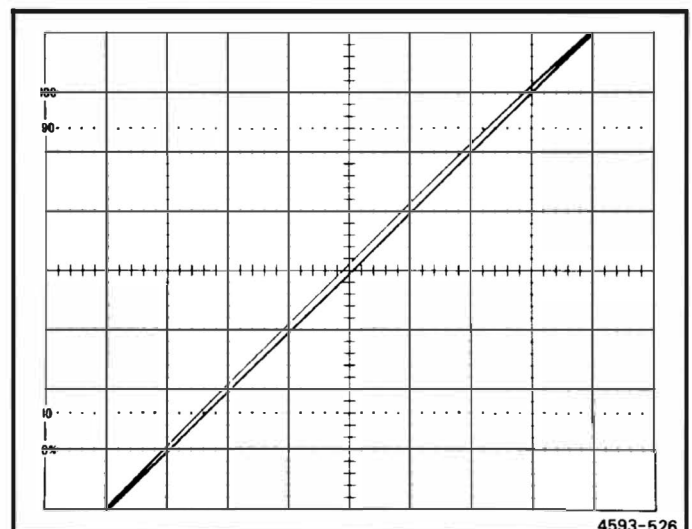

Figure 5-3. Typical display when checking X-Y phase compensation.
- g. **CHECK**—the crt display for a Lissajous pattern with a separation of 0.28 division or less (indicates 2° or less phase shift; see Figure 5-3).
- h. **ADJUST**—X-Y Comp adjustment, C814 (on the A17 X-Y Delay Compensation Board) for minimum separation of the display (see Figure 5-3).
- k. **CHECK**—the crt display for a Lissajous pattern with a separation of 0.28 division or less (indicates 2° or less phase shift; see Figure 5-3).
- l. **ADJUST**—X-Y Comp adjustment, C804 (on the A17 X-Y Delay Compensation Board) for minimum separation of display (see Figure 5-3).
- b. **CHECK**—crt display for a Lissajous display with separation of 0.28 division or less (indicates 2° or less phase shift; see Figure 5-3).